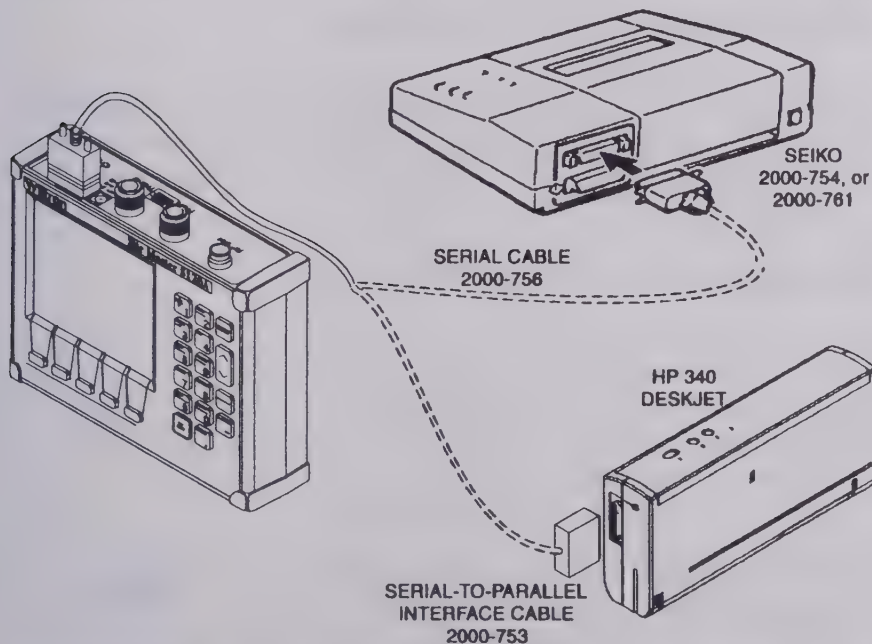

Figure 2-12. Printer Setup
Printing is accomplished with either of two printers: the Seiko DPU-411 thermal printer or the Hewlett Packard DeskJet 340 ink jet printer. Figure 2-12 shows a setup diagram for these two printers.
- Step 1. Connect the printer as shown in Figure 2-12.